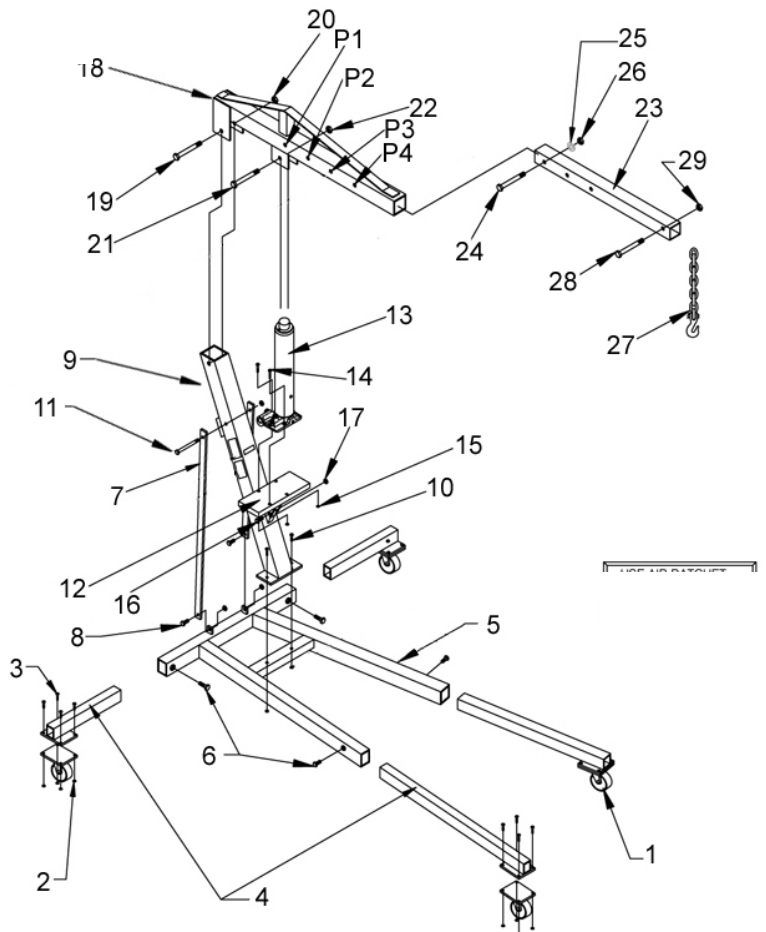

Figure 4 - Assembly Illustration for Model YA705B
**Note:** The upright must lean toward the rear of the base frame as shown in Figure 4. Leave the bolts finger tight.